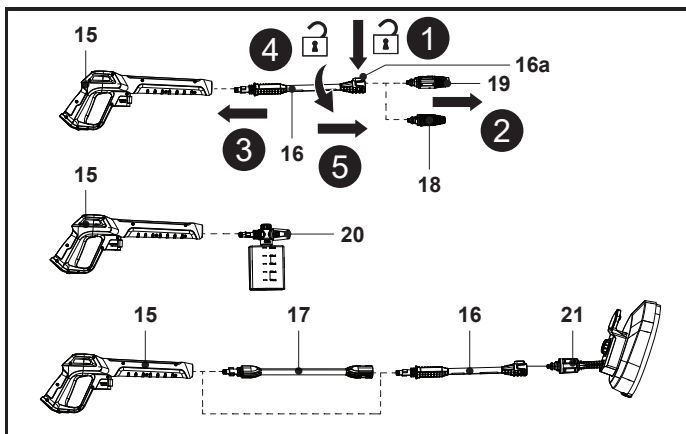

Fig. 6
6. To disconnect the nozzle, press the lock button (16a) and keep it in place, then pull the assembled nozzle out (Fig. 6, steps 1, 2). Reinstall a required nozzle.
7. To disconnect the extension lance (16), push and turn it counterclockwise to remove it (Fig. 6, steps 3, 4, 5).
8. To disconnect the detergent bottle nozzle (20) or the extension pole (17) from spray gun (15), push and turn it counterclockwise to remove it. Reinstall a required spray gun accessory.